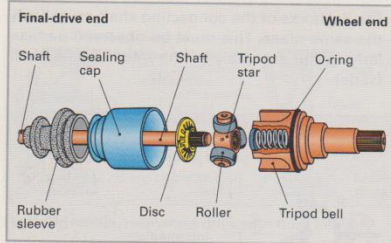

Fig. 1: Tripod joint
**Tripod joints (Fig. 1).** These can be used in the case of independent suspension both on powered front axles (front-wheel drive) and on powered rear axles (rear-wheel drive).